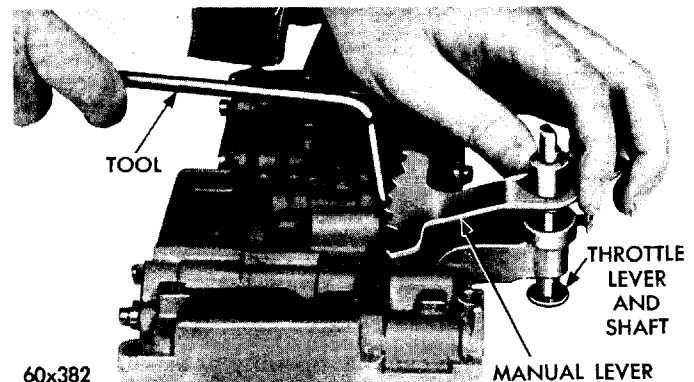

Fig. 40—Installing Detent Ball, Spring, and Manual Lever
(10) Install throttle lever and shaft on the valve body (Fig. 40). Insert detent spring and ball in its bore in the valve body (Fig. 40). Depress ball and spring with Tool C-3765 or similar tool and slide manual lever over throttle shaft so that it engages manual valve and detent ball. Install the retaining E-clip on the throttle shaft.
(11) Position the valve body assembly on the holding stand.